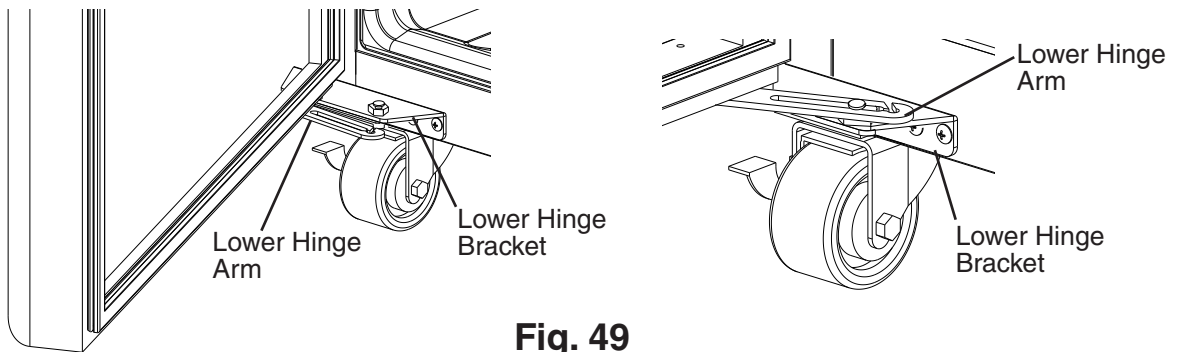

Fig. 49
18) Open the door and connect the lower hinge arm to the lower hinge bracket. See Fig. 49.